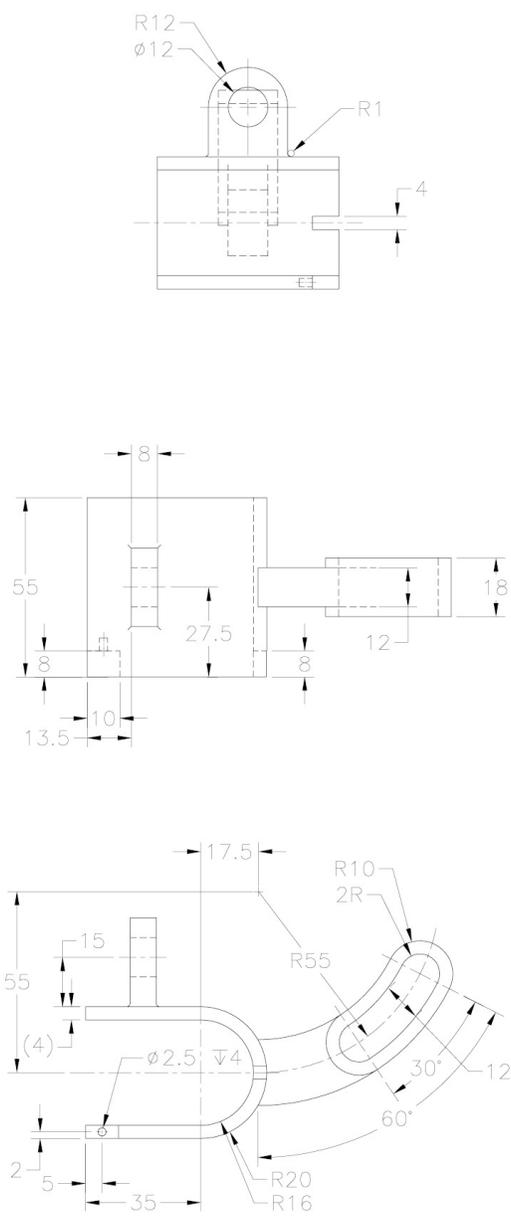
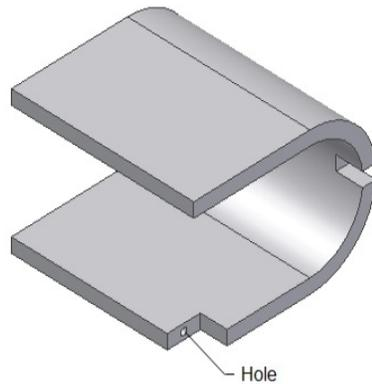
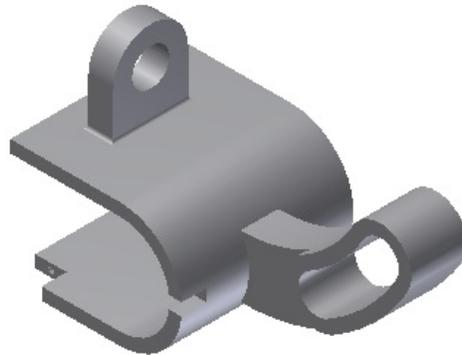

Figure 7-45 Views and Dimensions for Tutorial 1
Figure 7-60 Model after creating the hole
Figure 7-61 Final solid model of the Gear-shifter link
In this tutorial, you will create the model of the Gear-Shifter Link shown in Figure 7-45. Its views and dimensions are shown in the same figure. **(Expected time: 45 min)**
- h. Finally, unsuppress all features to complete the model, refer to Figure 7-61.
4. Create a drilled hole of 2.5 mm diameter on the left face of the slot, refer to Figure 7-60. For the location of the hole, refer to Figure 7-45. The depth of the hole is 4 mm. The model after creating the hole is shown in Figure 7-61.
2. Similarly, unsuppress the remaining suppressed features. Choose **Accept** in the **Autodesk Inventor Professional -Unsuppress Feature** dialog box, whenever it is displayed. The final solid model of the Gear-shifter link after unsuppressing all the suppressed features is shown in Figure 7-61.